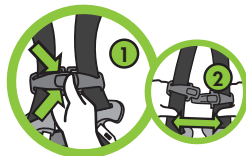

Figure 22
- Press release tab in (1) and pull apart (2) to separate as shown in **Figure 22**.